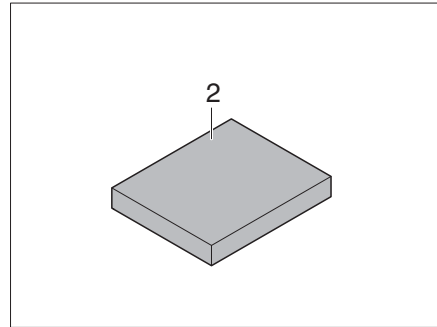

Fig. 173 Additional cushion
- Lay the additional cushion (Fig. 173,2) in the middle on the table.